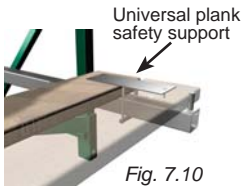

Fig. 7.10
- 3- Using screws or nails, secure the top plate of the plank safety support to the planks (fig. 7.10).